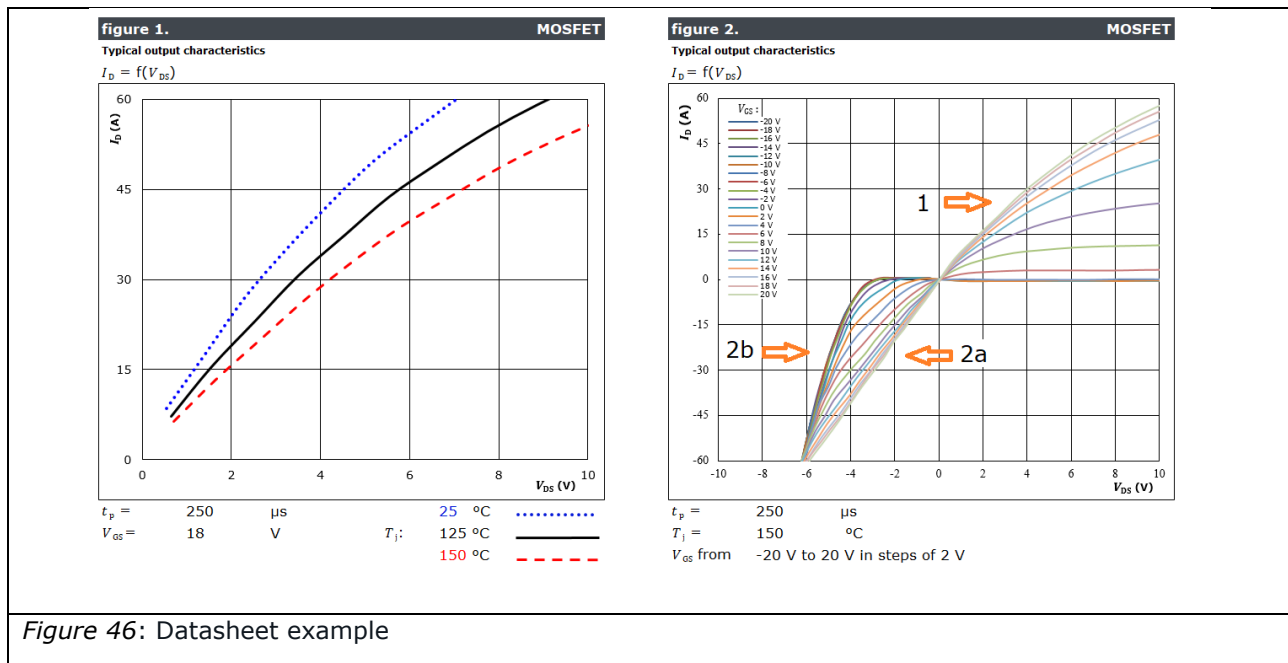

Figure 46: Datasheet example
**Conditions of Figure 46 left side:**
**Conditions of Figure 46 right side:**